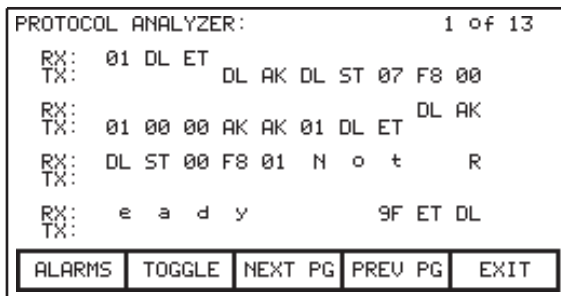

Figure 246 - Mixed Format Displayed
- the data shown as a mixture (Figure 246) of: